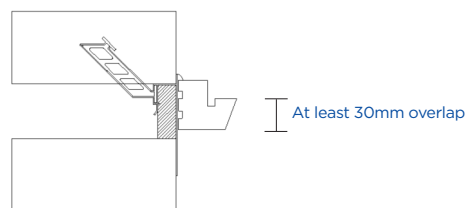

Fig.3
- BRE Document 'Thermal insulation: avoiding risks' and Robust Details stipulate: "When a window or door frame is set back behind the inner face of a dense outer masonry leaf, it should overlap an insulated closer by a minimum of 30mm for BRE exposure zones Sheltered to Severe; but fully rebated (check reveals) for zones Very Severe" (see fig.3)